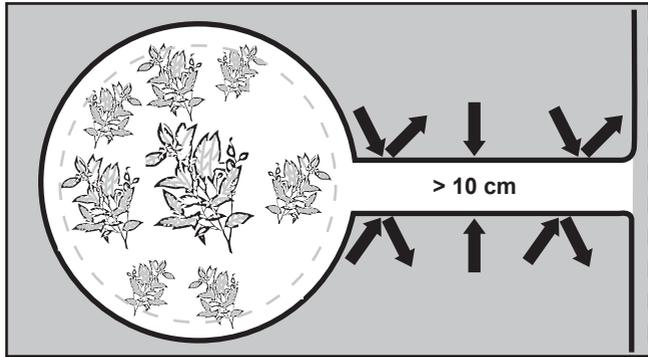

Fig. 3
1. Maintain a distance of over 10 cm between the parallel wires (Fig. 3). This allows the machine to recognize the boundary wire as a standard obstacle during cutting, causing it to bounce off as usual.